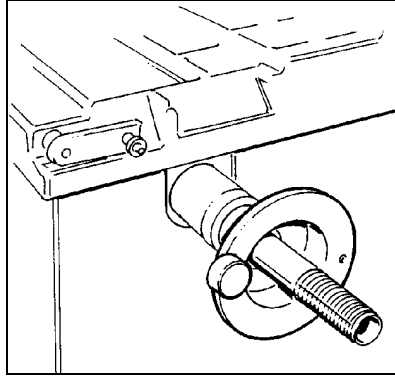

fig.20
- 6 - Fix the wheel sample weight on the outside of the cone (fig. 20)